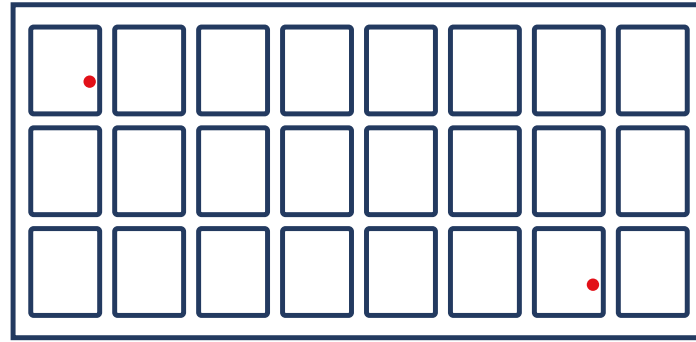

Figure 1: Substrate with 24 displays, and 2 defective regions
Tiled microLED: One of the major advantages of MicroLED technology is the possibility of making them completely bezel-free (6), putting two such bezel-free displays together creates a totally seamless display. Beyond the advantage of production flexibility, this also has a distinct yield advantage, as all displays are created from relatively small parts as was shown in Figures 1 and 2.